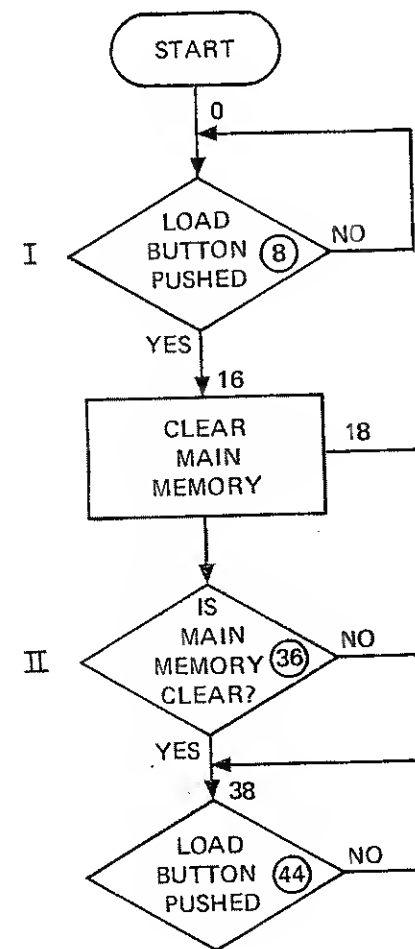

Figure 8-3. Operational Flow Diagram (First 44 Addresses)
4. Check program flow in operational flow diagram, Figure 8-3.